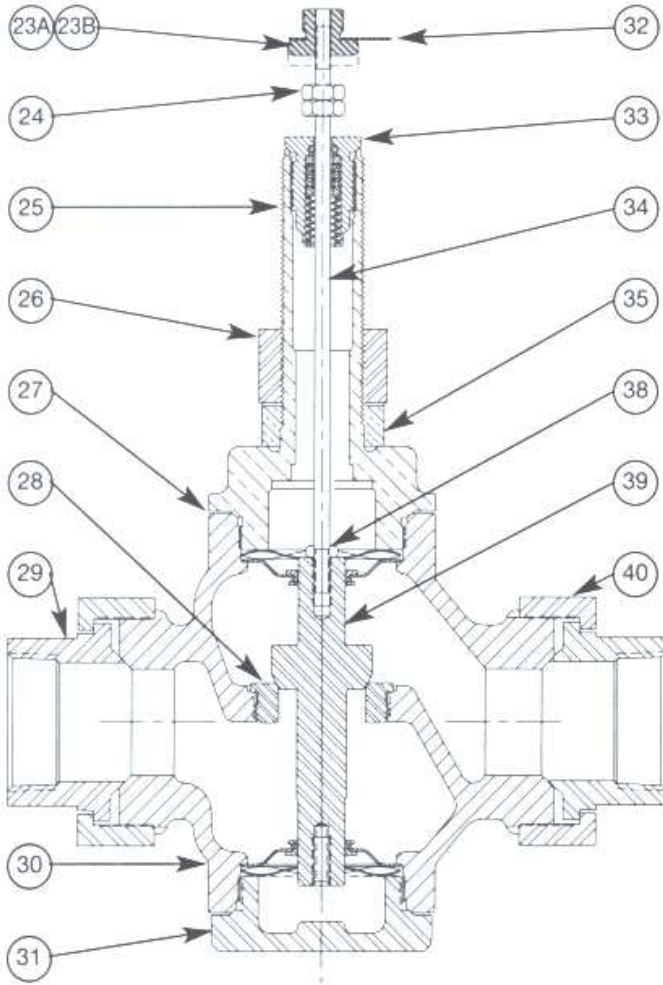

Figure 2 – Valve Body Assembly – D1 1” – 2”
Close inlet and outlet stop valves. Be sure body is not under pressure. Remove all accessories from control valve. Refer to Figure 2.
Put actuator assembly over valve stem. Place lock nut (Fig. 2, #26), and stem nuts (24) with travel indicator (32) on valve stem. Rest actuator stem (16) on valve stem. Tighten stem nuts approximately 2/3 down valve stem. Lift actuator assembly and engage valve stem with actuator stem (be careful not to gall plug & seat).